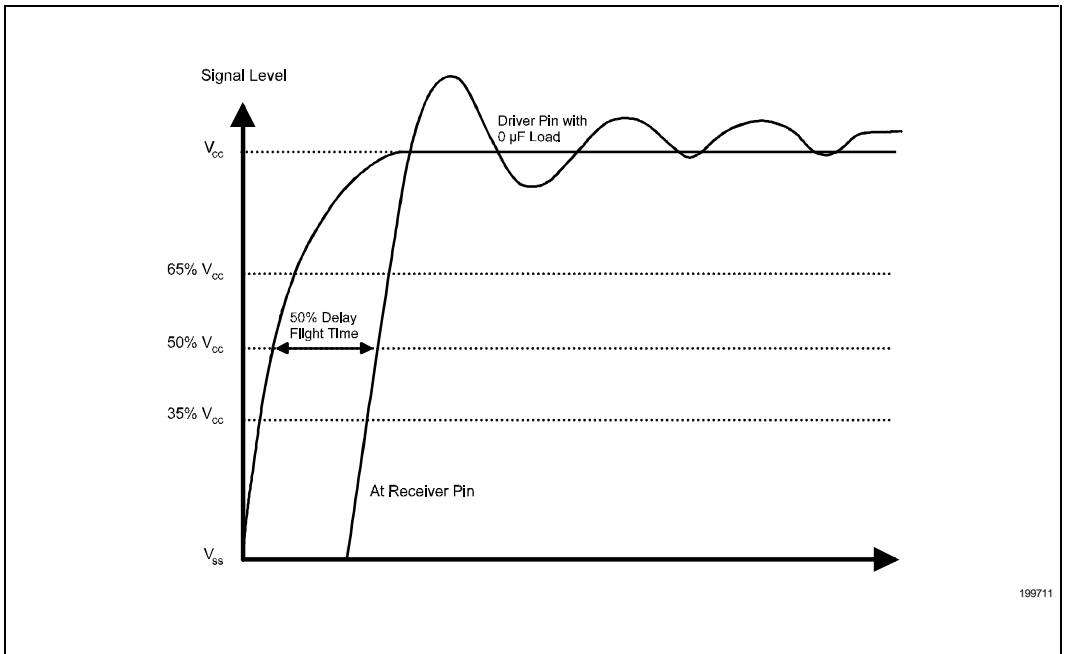

Figure 11. 50% V_{cc} Measurement of Flight Time
11. This is a flight time specification, that includes both flight time and clock skew. The flight time is the time from where the unloaded driver crosses 1.5V (50% of min V_{CC}), to where the receiver crosses the 1.5V level (50% of min V_{CC}). See Figure 11. The minimum flight time minus the clock skew must be greater than zero.